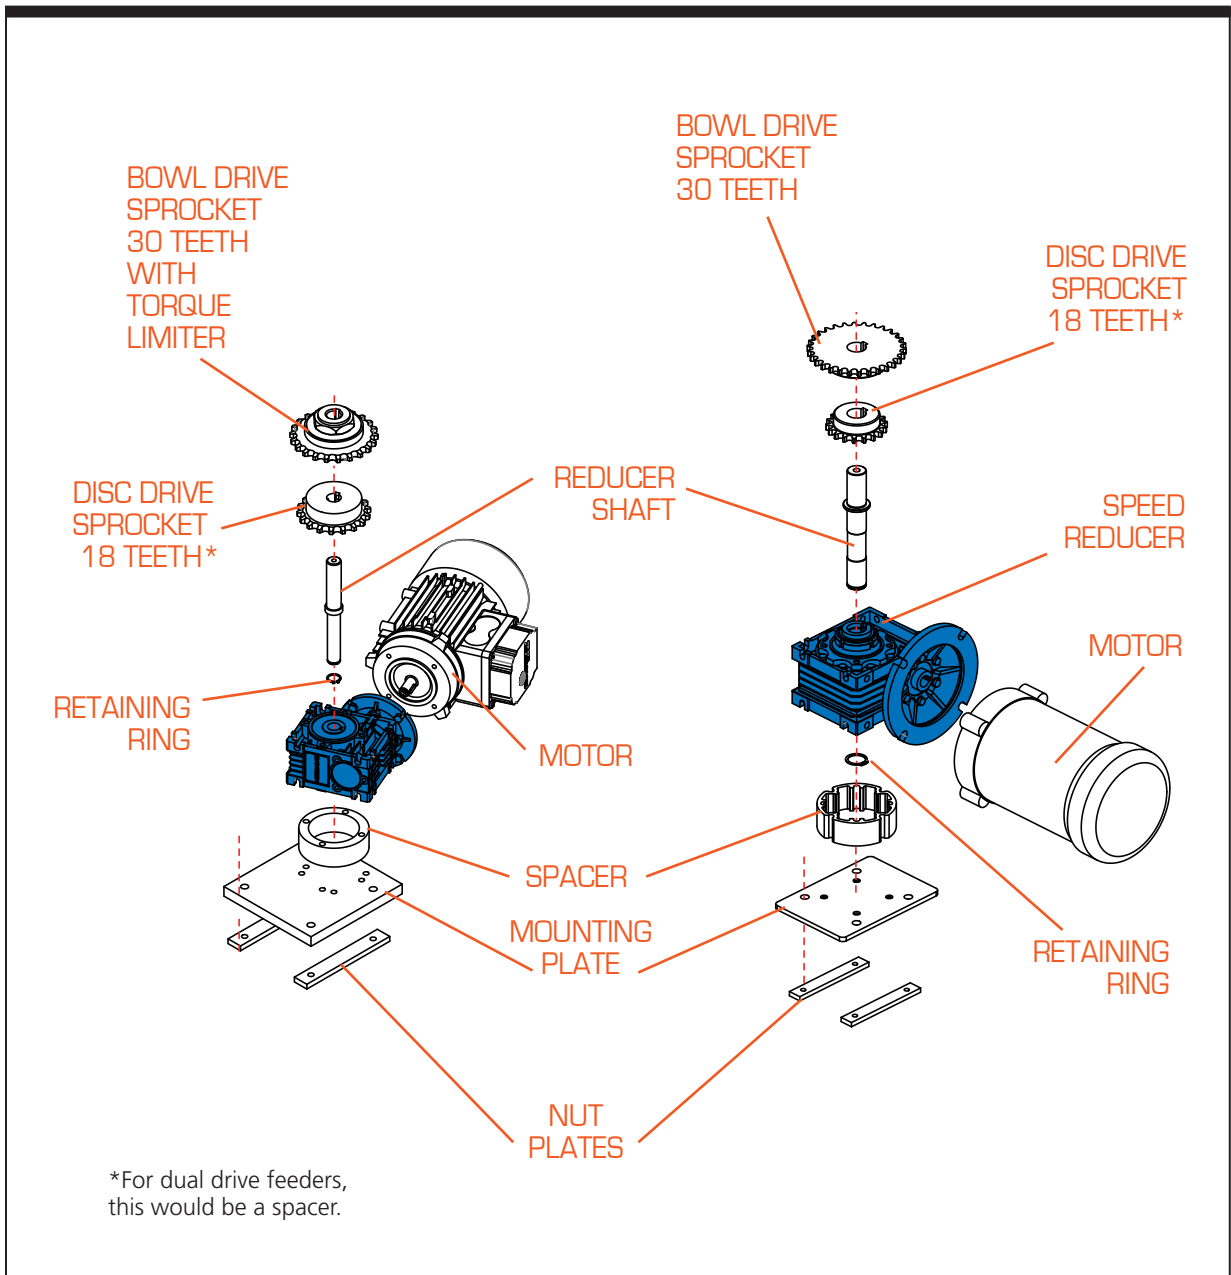

Figure 5-3. Typical FT-20-RD Single Drive Assembly (Right) and FT-30-RD Single Drive Assembly (Left)
Step 5—Assemble Output Shaft. The output shaft on the speed reducer comes as a separate kit. If replacement is required, clean both contact surfaces before assembly and apply any appropriate anti-seize compound to avoid oxidation (rust) and possible seizing of parts. Slide the sprocket(s) down onto the reducer output shaft. You will need to adjust the height of the sprocket(s) to match the heights of the corresponding sprocket(s) on the spindle assembly (see Figure 5-3 on the following page regarding the order). Tighten setscrew. The speed reducer used in the feeder is lubricated for life with synthetic lubricant and requires no filling before use.